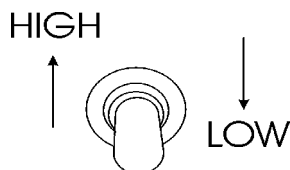

Figure 48. Engine Throttle Control
8. Place the **engine throttle lever** in the “LOW” position (Figure 48). This lever is located on the generator control panel.
10. Once the engine has started, let it run for 3-5 minutes, then turn the throttle handle control (Figure 48) to the “HIGH” position.